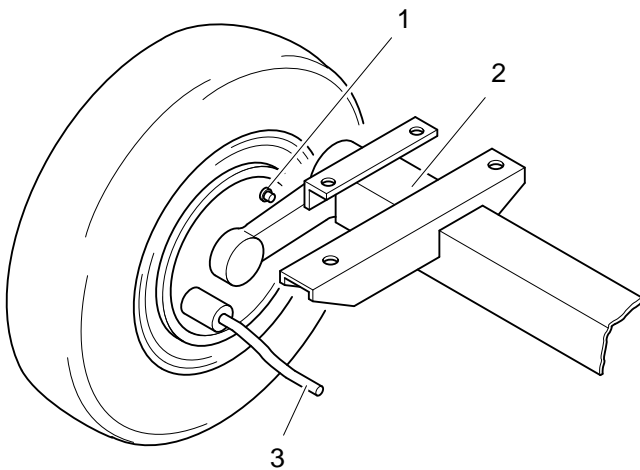

Fig. 5.5 Wheel assembly
3. While turning the wheel in the sense of forward towing, turn brake adjusting nut (Fig. 5.5, 1) clockwise until the brake shoes block the drum. Then loosen the nut, with the wheel again turning in the same direction, until the drum rotates freely or with a light friction. Repeat for the other wheel.